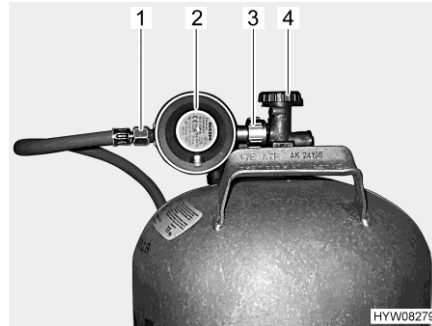

Fig. 136 Gas bottle connection
- Close the regulator tap (Fig. 136,4) on the gas bottle. Pay attention to the direction of the arrow.
- Hold the gas pressure regulator (Fig. 136,2) and open the knurled nut (Fig. 136,3) (normally a left-hand thread).
- Remove the gas pressure regulator and the gas tube (Fig. 136,1) from the gas bottle.
- Position the gas pressure regulator (Fig. 136,2) with gas tube (Fig. 136,1) on the gas bottle and tighten the knurled nut (Fig. 136,3) (normally a left-hand thread). **Do not** tighten too firmly.